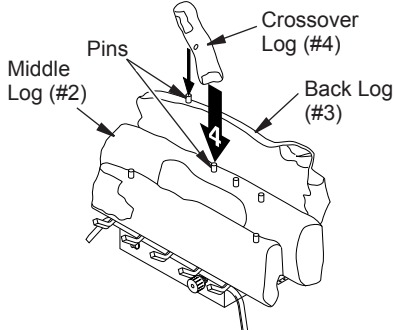

**Figure 20 - Installing Middle Log #2
- Place base of middle log (#2) in U-shaped slots of grate base. Cutout on right of middle log should fit over burner (see Figure 20, page 17). Make sure front of middle log is resting on tabs of grate base.